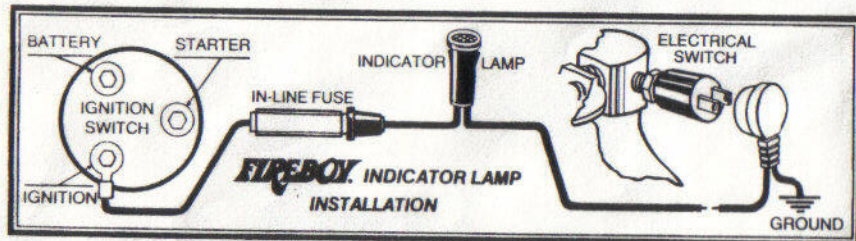

FIGURE 5
**NOTE:** In order to fully comply with U.S. Coast Guard Rule 162.029 when this system is installed in boats having powered ventilation, (i.e., a blower that is on anytime the engines are running) the ground connection of the ventilation blower must be connected to the pressure switch at the same point as the indicator lamp (See Fig. 5) or to terminal Number 1 of Fireboy System's Engine Shutdown/Override Model Series I & II. This connection method will interrupt the blower in the event of a discharge. (See Sec. 6.2 for current limits)
If, after reviewing the wiring instructions below, you have any doubts about your ability to safely install this device, don't take chances. . . consult a qualified marine electrician. In addition, ignition systems and electrical systems vary from boat to boat, and the directions which follow may not apply to your boat. Simply put, the FIREBOY indicator lamp is wired in "series" with the ignition switch, fuse, FIREBOY electrical pressure switch and common ground. See Fig. 5. Assemble the supplies you will need that are not included with your FIREBOY System. 1. The necessary length of insulated 16 gauge (min.) stranded wire; 2. A five (5) ampere "in-line" fuse and fuse holder; 3. Properly sized insulated crimp-on wire connectors. Connect one lead of the fuse to the "ignition" screw of the ignition switch. Connect the other wire of the in-line fuse to one lead of the indicator lamp. Connect the other indicator lamp wire lead to one of the wires on the connector pigtail. Connect the remaining pigtail wire of the connector to a common ground such as the negative terminal block at the instrument panel or secure it directly to the engine block. Press the electrical connector onto the pressure switch. Your lamp installation is now complete.